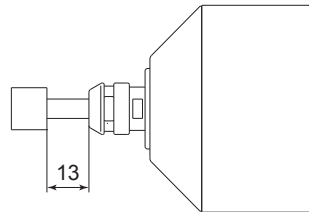

Fig. 8
- ① The proper surface speed for general grindstones is 10 - 30m / s.
- ② Do not exceed 13mm of overhang for mounted grindstones as shown in Fig. 8. If the overhang must exceed 13mm, reduce the Air Turbine Spindle rotation speed in accordance with Table. 3.
- ③ Dress the grindstone prior to use.
- ④ Do not use grindstones with bent or broken shanks, cracks or excessive run-out.
- ⑤ For grinding, the maximum depth of cut should not exceed 0.005mm radially or axially. Reciprocate the grindstone several times after each pass to eliminate grindstones tool pressure.
- ⑥ Keep the shank of the grindstone, collet and collet nut clean. If contaminants are left in the collet or collet nut, excessive run-out will cause damage to the grindstone and or Air Turbine Spindle.
- ⑦ Do not strike or disassemble the Air Turbine Spindle.
- ⑧ Always set the grindstone to minimize the amount of overhang. 13mm is the maximum amount of overhang to maintain high accuracy and safety.